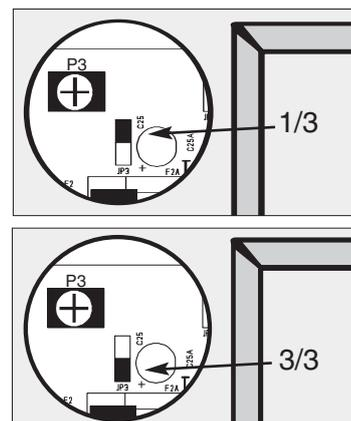

Fig. 14
- Function with room thermostat remove bridge "S", room thermostat connected as shown on connector "C" (fig. 14).
- JP3 : the spade connector (fig. 14) allows the gas rate to be reduced to 1/3 performance by positionning spade across pins as shown (fig. 14). Full performance across pins as shown (fig. 14).